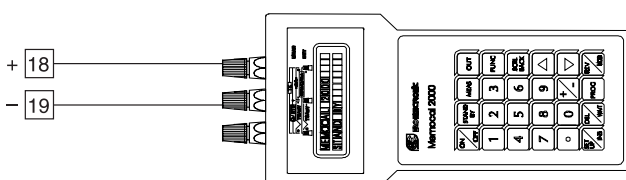

Fig. 14
- Connect the instrument under test to the calibrator as shown in Fig. 14.